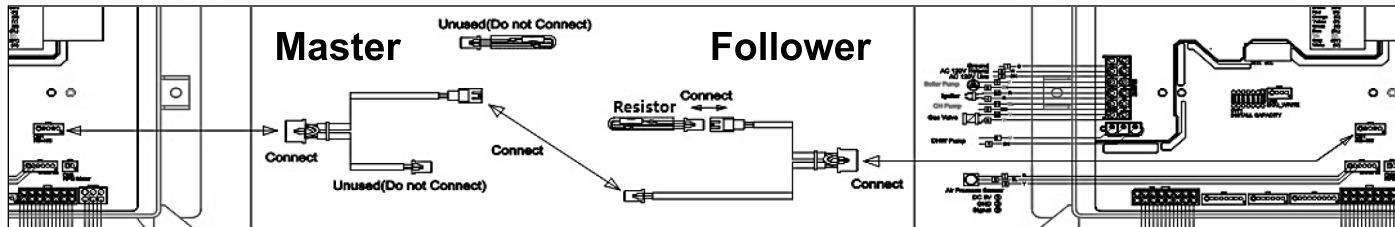

Figure 37 - Cascade Wiring Example
1. Connect the five pin connectors of the cascade communication cables to the control board of every unit. See Figures 37 and 38.